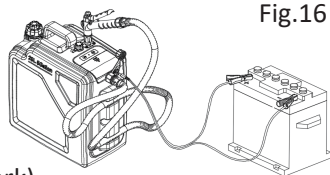

Fig.16
1. Insert DC circular plug of the power cable into the pump power port as shown in as Fig.16